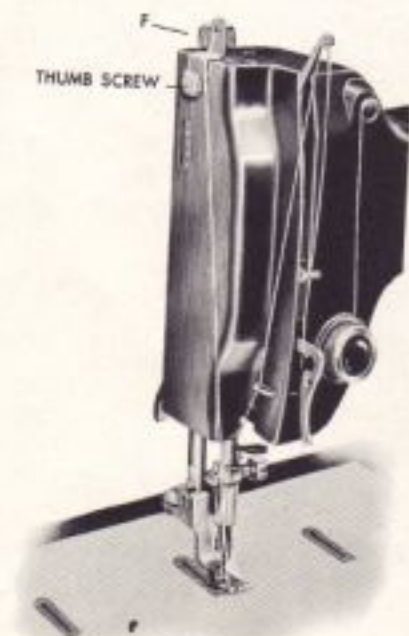
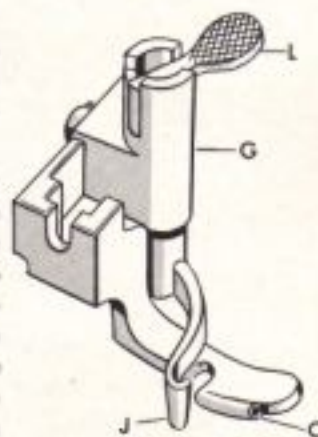

Fig. 47
Fig. 50
9. Loosen thumb screw on top of face plate slightly and slip Gimp Guide "F" down, fitting it in place (Fig. 47). Tighten thumb screw securely.
16. Place spool of gimp on second pin "H" (Fig. 1) and pull gimp (cord) from right to left, through gimp guide "F" (Fig. 47) on face plate, then down, and, from front to back, through hole in base of presser foot.
20. Lower presser foot, making sure that Spreader Guide "J" (Fig. 50) goes through cut part of buttonhole (Fig. 47).
23. Lift spreader guide with lever "L" (Fig. 50).